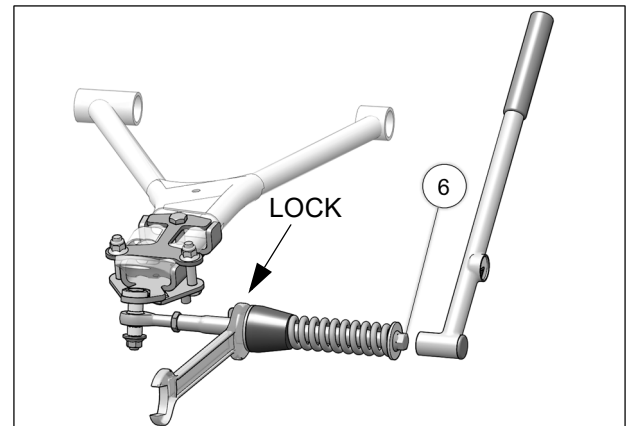

Fig. 19
10. Verify that spring assembly bolt (**6**) is tightened to the recommended torque specification: 75 N•m [55 lb•ft]. Make sure to lock in position, the large nut in front of the rubber cone damper. Refer to Fig. 19